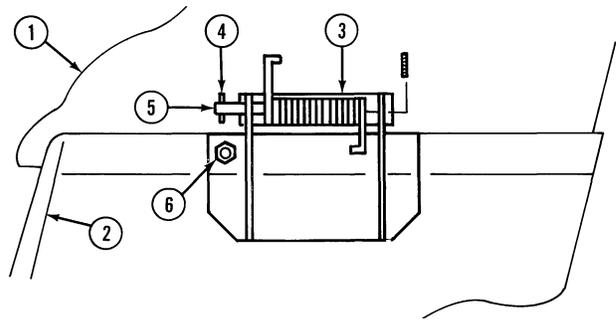

Figure 2
4. Remove the discharge deflector (2), Figure 2, from its shipping position. Install one 5/32" x 1" roll pin (4), in one end of the hinge pin (5), with equal lengths of the roll pin protruding thru the hinge pin. Put the deflector in place on the deck and start the hinge pin from one end.
5. Slide the torsion spring (3), Figure 2, onto the hinge pin with the ends down and in torsion, contacting the deck and deflector. Push the hinge pin fully into place and install the last 5/32" x 1" roll pin.
6. Install a 3/8"-16 x 3/4" bolt (6), Figure 2, from the bottom, thru the deck and deflector, and fasten in place with a lock washer and 3/8"-16 nut.